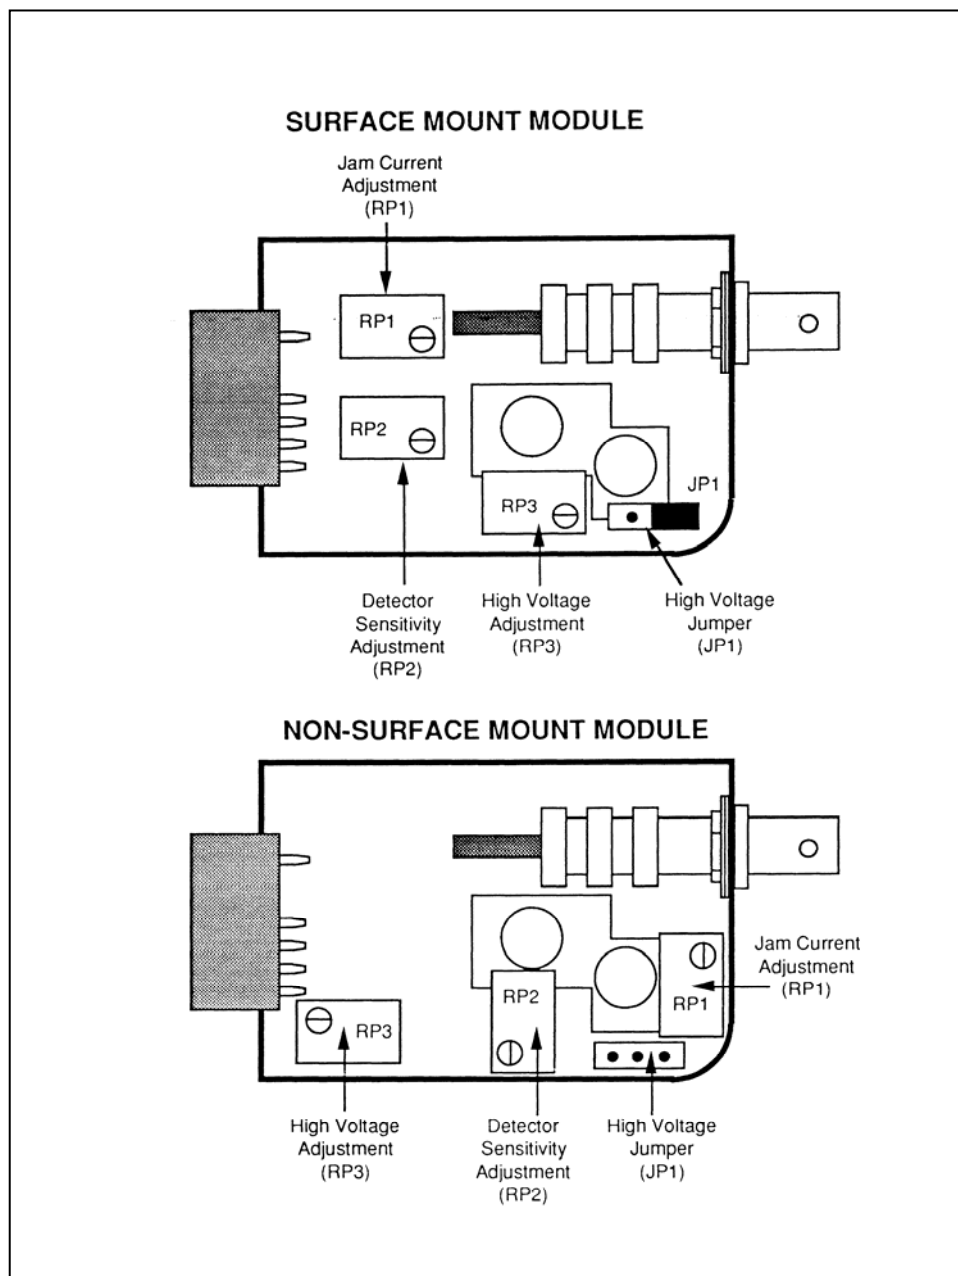

Figure 3-5. Probe Adapter Adjustments
Refer to Figure 3-5 for location of the high voltage adjustment (RP3). Use the following procedure to adjust the detector high voltage:
2. Locate the 3-pin jumper connector JP1 (refer to Figure 3-5 for jumper location).
Refer to Figure 3-5 for location of the detector sensitivity adjustment (RP2). The adjustment is factory set to 80 mV. If necessary, use a variable amplitude pulse generator and turn RP2 counterclockwise to increase sensitivity.
Refer to Figure 3-5 for location of the jam current adjustment (RP1). Use the following procedure to adjust the jam current: